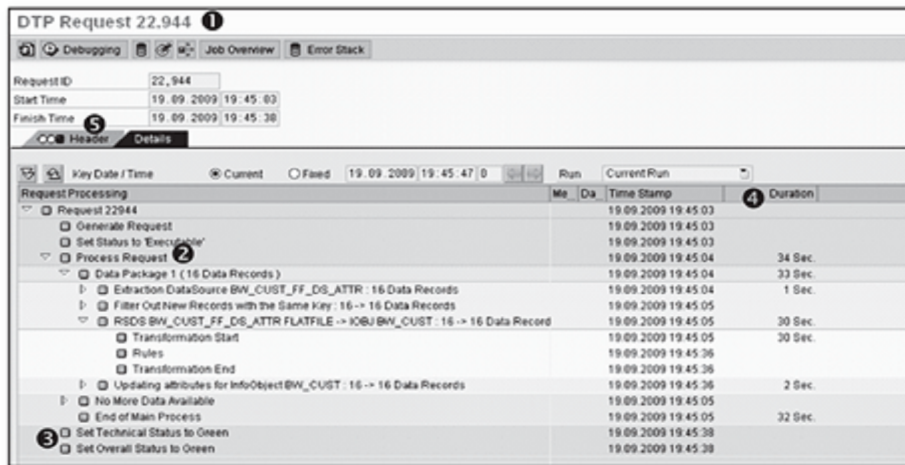
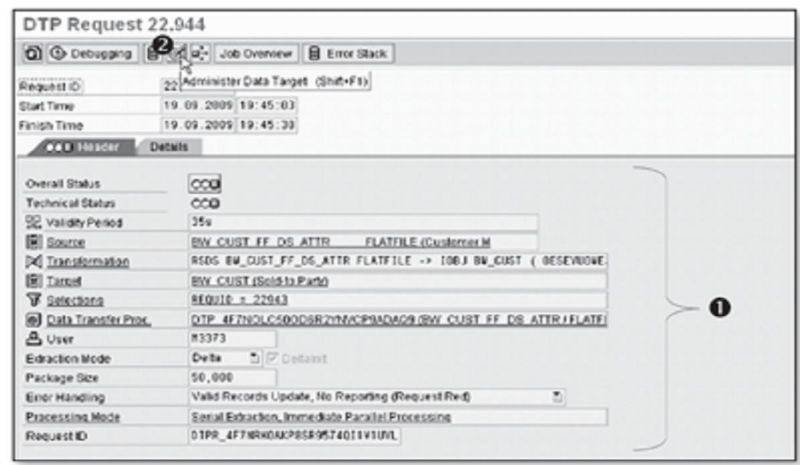
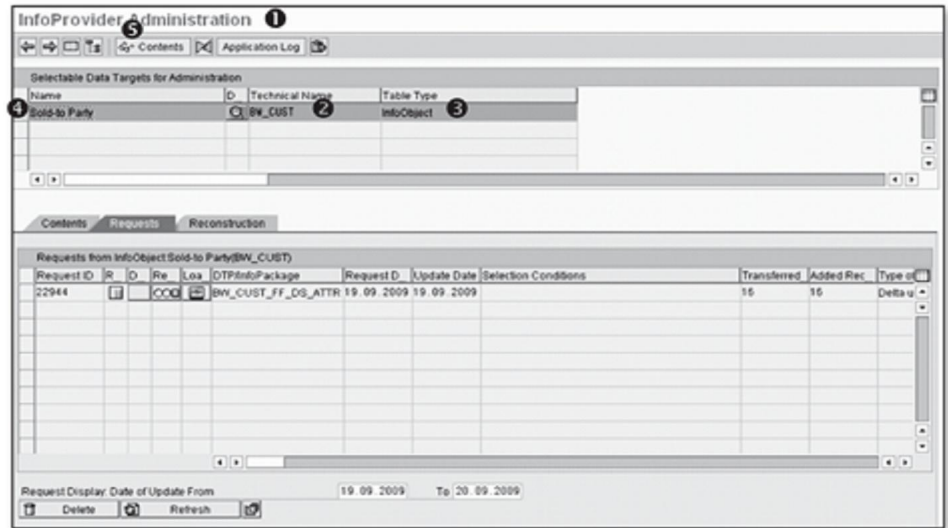
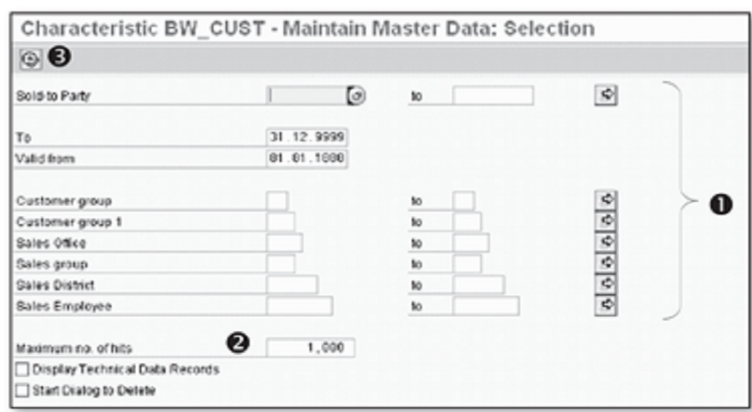

Figure 7.45 DTP Monitor: Details Tab
Figure 7.46 DTP Monitor: Header Tab
Figure 7.47 InfoProvider Administration Screen
Figure 7.48 Maintain Master Data: Selection Screen
Click Yes, and the DTP Monitor is displayed (Figure 7.45). The DTP Monitor has two different tabs, Details and Header. We describe both of these next, and then discuss the InfoProvider Administration screen.
By default you're shown the Details tab, which displays the unique request number of this DTP (❶ of Figure 7.45). More details about the DTP (❷) are organized by data packet. Different steps carried out during the DTP — extraction, filter, transformation, and updating — are shown here. The technical and overall status set for the request is shown in ❸ of Figure 7.45, and the duration of each step is shown in ❹ of Figure 7.45.
Click on the Header tab (❺ of Figure 7.45), and the screen shown in Figure 7.46 is displayed.
The Header tab shows all of the settings used for running this DTP (❶ of Figure 7.46). The master data from the flat file is now successfully loaded into tables associated with InfoObject BW_CUST.
To view the loaded master data, click on the Administer Data Target icon shown in ❷ of Figure 7.46. The InfoProvider Administration screen appears (Figure 7.47).
As you can see, the InfoProvider is listed as InfoObject BW_CUST (❷ and ❸ of Figure 7.47). You can select the InfoProvider by clicking the start of the line (❹). A number of administrative tasks can be performed using the functionalities available in the lower part of Figure 7.47, but the details of this go beyond the scope of this chapter. Instead, these topics are addressed in Chapter 14, Administration and Maintenance.
From Figure 7.47, click on the Contents button (❺). This action results in the screen shown in Figure 7.48, where you can maintain master data.
As shown in ❶ of Figure 7.48, the master data selection screen displays all of the attributes of InfoObject BW_CUST for making selections. You enter selection values for filtering master data records. Recall that when we defined the attributes of InfoObject BW_CUST (Chapter 3), we defined the sales employee attribute as time-dependent. The To and Valid From fields are available for selection as a result of this.